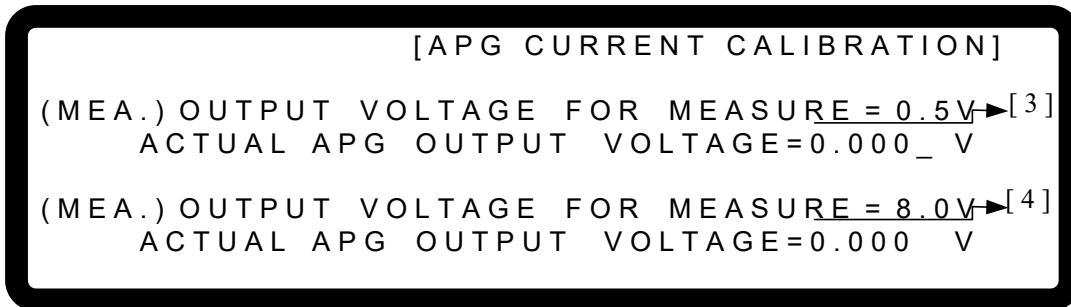

Figure 3-125
- Press again the system will set the output voltage of Pin 19 on the rear panel to 0.5V and the cursor stops at position [3] as Figure 3-125 shows. Input the voltage read by DVM2 to position [3] and press to confirm.
- Press again the system will set the output voltage of Pin 19 on the rear panel to 8.0V and the cursor stops at position [4] as Figure 3-125 shows. . Input the voltage read by DVM2 to position [4] and press to confirm.